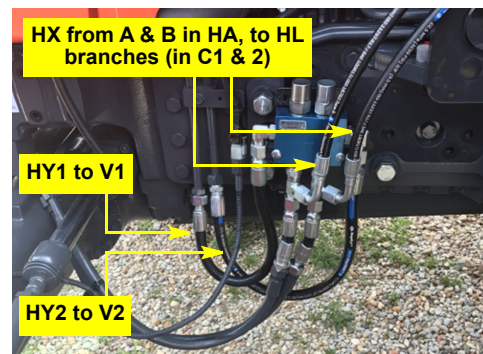

Figure 7d: CBV installed - connections 2
- f. Connect hoses **HY1** and **HY2** between the steel steering lines and the elbow fittings **HJ** in the V ports of the CBV (HY1 to V1 - Figure 7d).
- g. Connect the steering hoses **HX** to/from the A and B ports of **HA** to the branches of the run tees **HL** in the C ports of the CBV (Figure 7d).